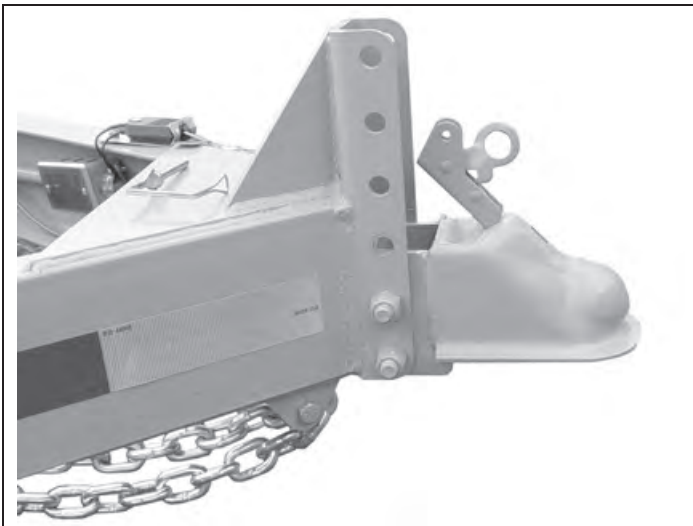

Figure 4-3 – Coupler Mechanism “Open”
- Open the coupler locking mechanism. See figure 4-3.